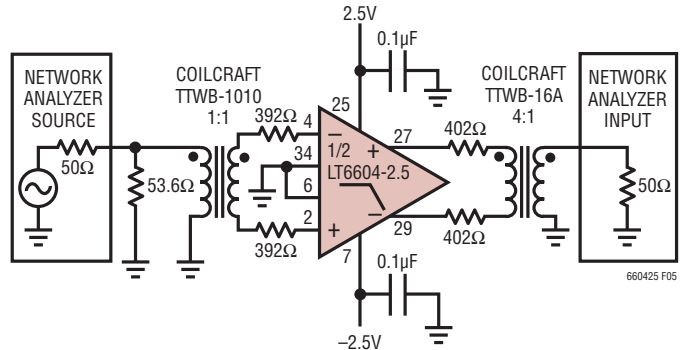

Figure 5
Figure 5 is a laboratory setup that can be used to characterize the LT6604-2.5 using single-ended instruments with 50Ω source impedance and 50Ω input impedance. For a 12dB gain configuration the LT6604-2.5 requires a 402Ω source resistance yet the network analyzer output is calibrated for a 50Ω load resistance. The 1:1 transformer,
53.6Ω and 392Ω resistors satisfy the two constraints above. The transformer converts the single-ended source into a differential stimulus. Similarly, the output of the LT6604-2.5 will have lower distortion with larger load resistance yet the analyzer input is typically 50Ω. The 4:1 turns (16:1 impedance) transformer and the two 402Ω resistors of Figure 5, present the output of the LT6604-2.5 with a 1600Ω differential load, or the equivalent of 800Ω to ground at each output. The impedance seen by the network analyzer input is still 50Ω, reducing reflections in the cabling between the transformer and analyzer input.